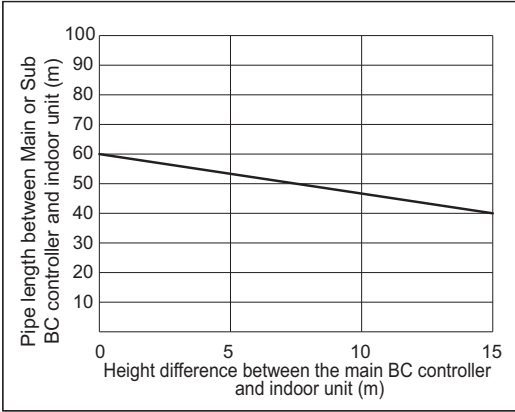

Fig. 2
- \*2. Details refer to Fig. 2.
- \*9. When the piping length or the vertical separation exceeds the limit specified in Fig. 2, connect a sub BC to the system. The restriction for a system with a sub BC connection is shown in Fig. 3. When a given system configuration falls within the shaded area in Fig. 3, increase the size of the high-pressure pipe and the liquid pipe between the main BC and sub BC by one size. When using P/M32, P/M40, P/M50, P/M100, or P/M125 model of indoor units, increase the size of the liquid branch pipe between the sub BC and indoor unit by one size. When using indoor models P/M140 or larger, the restrictions shown in Fig. 2 cannot be exceeded.
\*9. When the piping length or the vertical separation exceeds the limit specified in Fig. 2, connect a sub BC to the system. The restriction for a system with a sub BC connection is shown in Fig. 3. When a given system configuration falls within the shaded area in Fig. 3, increase the size of the high-pressure pipe and the liquid pipe between the main BC and sub BC by one size. When using P/M32, P/M40, P/M50, P/M100, or P/M125 model of indoor units, increase the size of the liquid branch pipe between the sub BC and indoor unit by one size. When using indoor models P/M140 or larger, the restrictions shown in Fig. 2 cannot be exceeded.